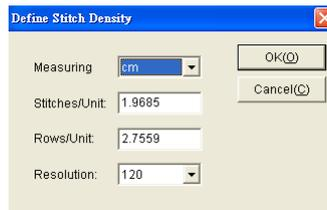

Figure 6-7 Define Knit Tension
To put the graphics with a suitable knitting size, it is considered by the graphic resolution and the knit tension ratio for a knit garment. Select  the Knit Tension command, it will show the Define Knit Tension dialog box (See Figure 6-7).
2. Stitches/Unit: Tension on the horizontal direction. See Figure 6-7. It is saying that there is 2.75 stitches/cm.